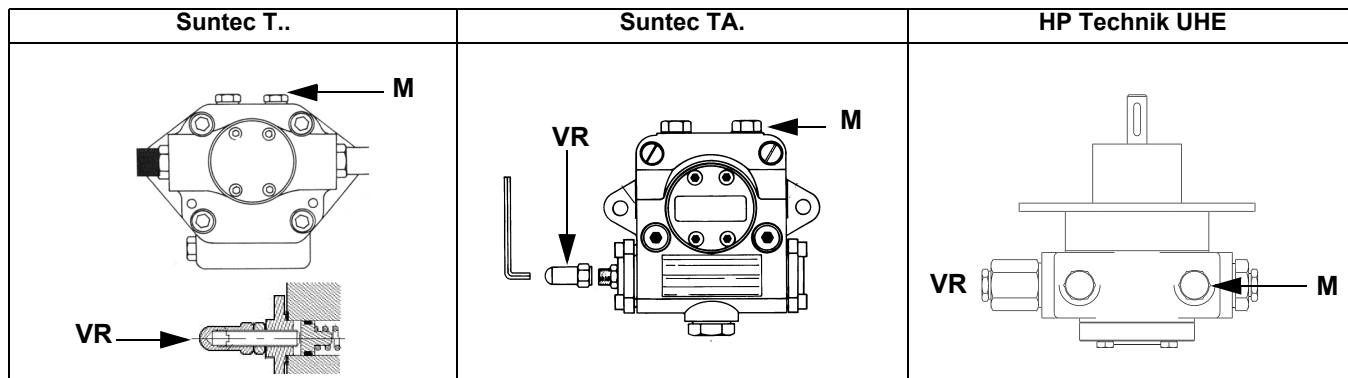
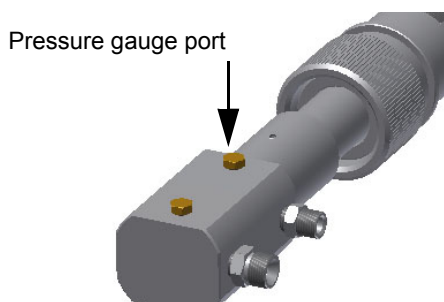

Fig. 7
Fig. 8
- 3 bleed the air from the **M** pressure gauge port (Fig. 7) by loosening the cap without removing it, then release the contactor.
- 5 Only if necessary, adjust the supply pressure as follows (see related paragraph); insert a pressure gauge into the port shown on Fig. 8 and act on the pump adjusting screw **VR** (see Fig. 7) as to get the nozzle pressure at 20bar (Monarch or Fluidics nozzles - see page 45-38).
4. VD can be mounted rotated by 180°, fig. 7.